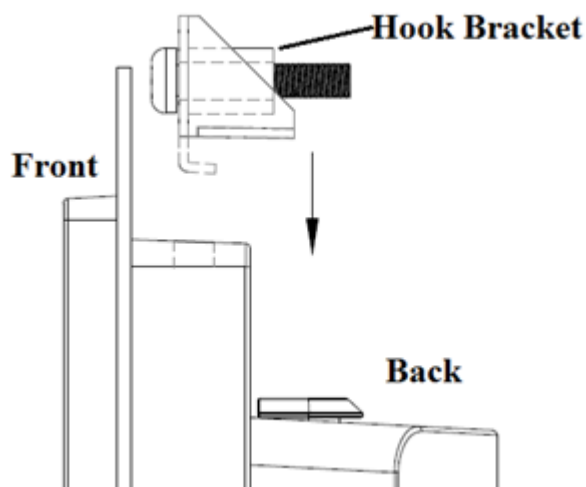

Figure 2.28 Hooks bracket for panel mounting
2. Align the retention screw holes on the mounting arm interface with VESA holes in the panel PC, and secure the panel PC by four M4 retention screws. (see Figure 2.28)